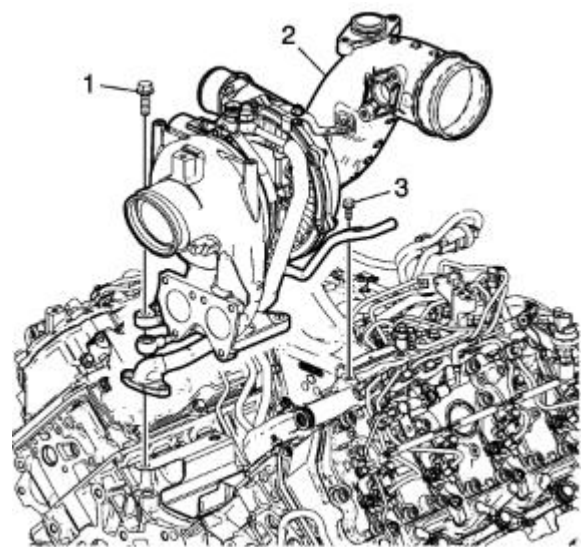

Fig. 114: Turbocharger assembly installation
- d. Install the turbocharger assembly with the oil feed pipe, oil return pipe, and cooling return pipe. Torque the turbocharger mounting bolts (item 1 in figure 114) to 58 ft-lb. Torque the turbocharger cooling return pipe bolt (item 3 in figure 114) to 18 ft-lb.